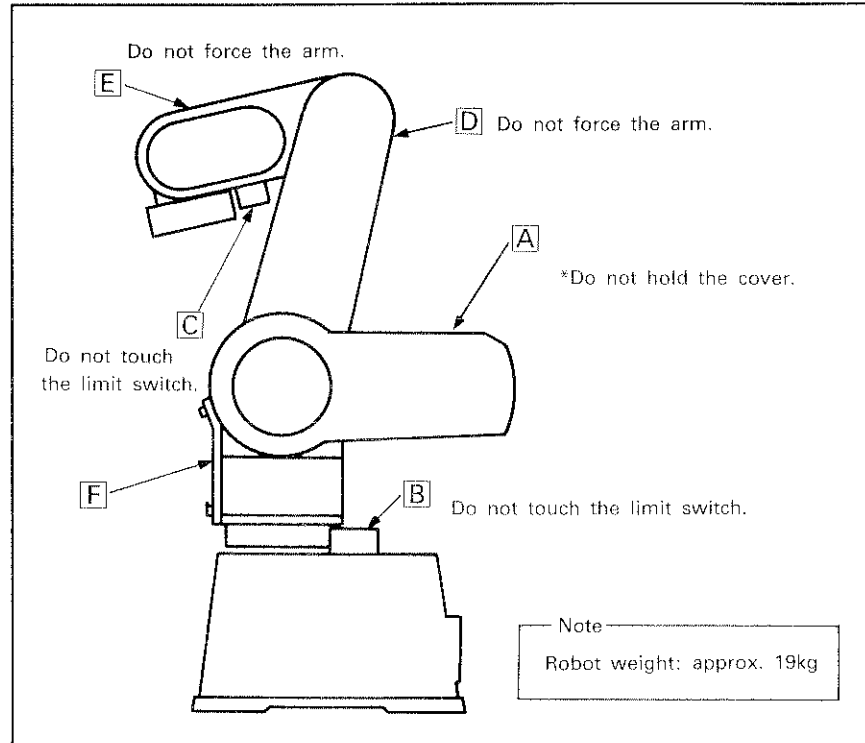

Fig. 1.1.1 Robot Attitude in the Package
- (1) Carefully read "Section 1.1 Robot Transportation, Vol. 2" before removing the robot from the package.
- (2) Do not hold the cover (area A in Fig. 1.1.1.) when removing the robot.
- (3) The origin limit switches and dogs (areas B, C) have been factory-adjusted. Do not touch them to ensure high repeatability.
- (4) Brake is being applied to the arms (areas D, E) Do not force these arms to extend.
- (5) Do not remove the arm fixing plate (area F) until the robot installation is complete. This plate protects the arm during transportation.